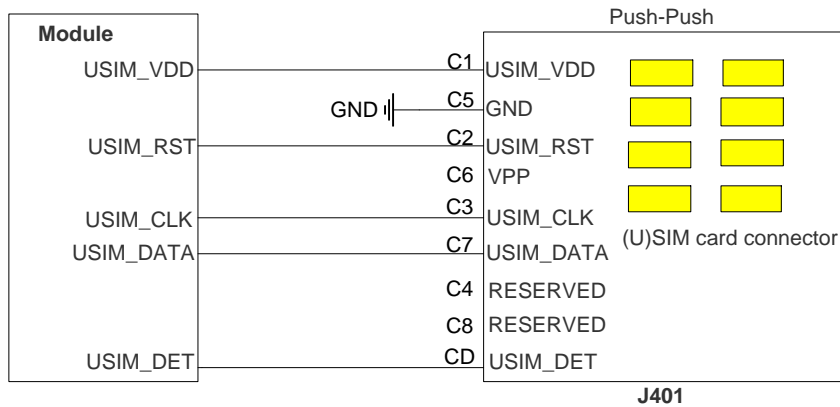

Figure 8: Simplified Connection Schematic for (U)SIM Card Connector J401
| Figure 8: Simplified Connection Schematic for (U)SIM Card Connector J401 | 16 |